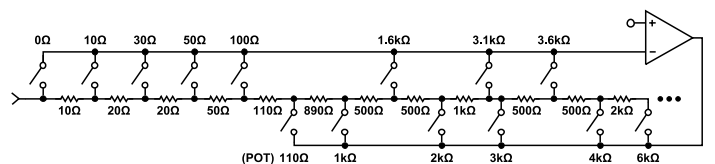
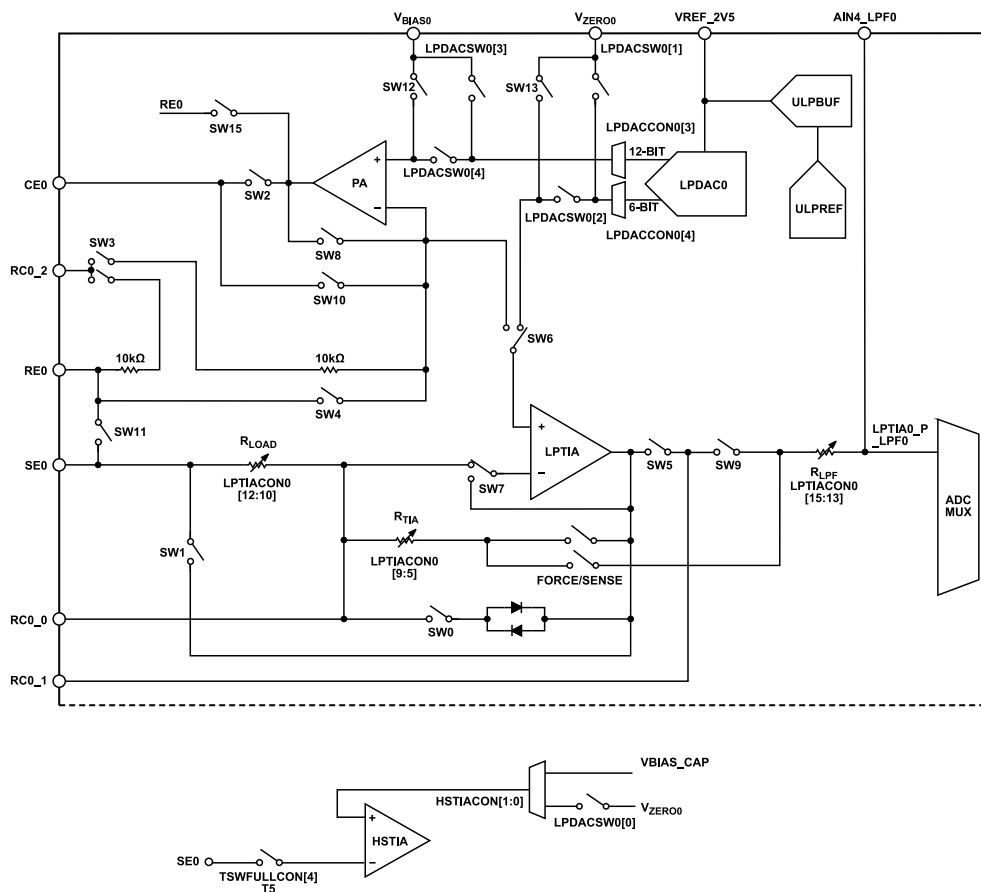

Figure 21. LPTIA  $R_{LOAD}$  and  $R_{GAIN}$  Configuration
Figure 22. Low Bandwidth Loop Switches
trix section for details). There are a number of configurable switch options around the potentiostat to provide numerous configuration options (see Figure 22).
The potentiostat can also be used a standard buffer output to output  $V_{\text{BIAS0}}$  voltage onto CE0. To achieve this, the inverting input is connected to the output of the potentiostat by closing the SW10 switch, as shown in Figure 22.
There are a number of switches around the low power TIA circuitry. The LPTIASW0 register configures these switches. Figure 22 shows the available switches. When the TIAGAIN bits (Bits[9:5]) in the LPTIACON0 register are set, these switches are closed automatically. When these switches are closed, there is a force/sense circuit with a low-pass filter resistor ( $R_{LPF}$ ) and a capacitor on the AIN4/LPF0 pin that acts as a resistor-capacitor (RC) delay circuit. The LPTIA0\_P\_LPF0 connects the output of the low power TIA low-pass filter to the ADC mux. Analog Devices recommends that the LPTIA0\_P\_LPF0 mux option be selected as the ADC input when using the low power TIA. It is recommended to connect a 100 nF capacitor between the RC0\_0 pin and the RC0\_1 pin to stabilize the low power TIA.
The LPTIACON0[9:5] bits select different gain resistor values for the low power TIA, labeled as  $R_{TIA}$  in Figure 22. The force and sense connections shown on the feedback path of the low power TIA are used to avoid voltage ( $I \times R$ ) drops on the switches, which select different  $R_{TIA}$  settings for the internal  $R_{TIA}$ .
Table 21 describes the recommended switch settings in the low power potentiostat loop for various measurement types. For all measurement types, setting the switch to 1 closes the switch and setting the switch to 0 opens the switch. LPTIASW0[13:0] controls SW13 to SW0, as shown in Figure 22. Figure 21 shows the relationship between the  $R_{LOAD}$  and  $R_{GAIN}$  settings for the LPTIA.  $R_{LOAD}$  is configured by setting LPTIACON0 [12:10].  $R_{GAIN}$  is configured by LPTIACON0[9:5]. When  $R_{LOAD}$  is large, it uses resistors from the  $R_{GAIN}$  bank, reducing the size of  $R_{GAIN}$ . See descriptions in the LPTIACON0 bit fields (Table 22 and Table 24) for details.